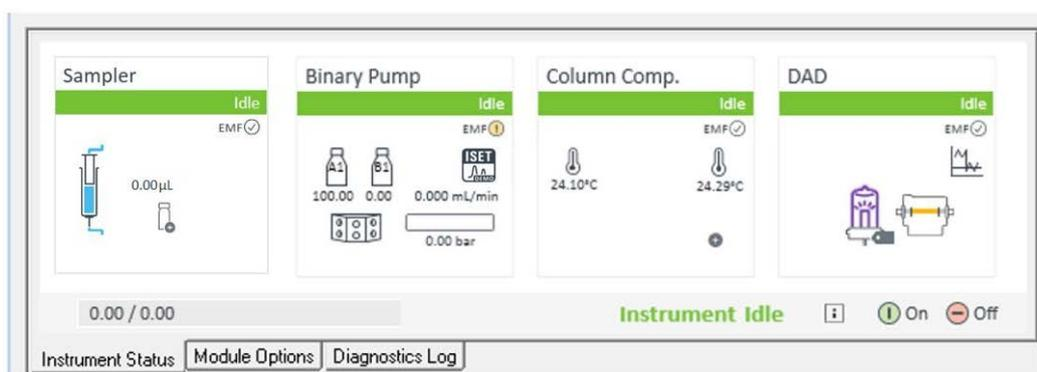

Figure 11 ISET pictogram in pump status tile of the LC Status dashboard - active
- If ISET is available and enabled, the ISET pictogram in the LC status dashboard is black (see Figure 11 on page 11)